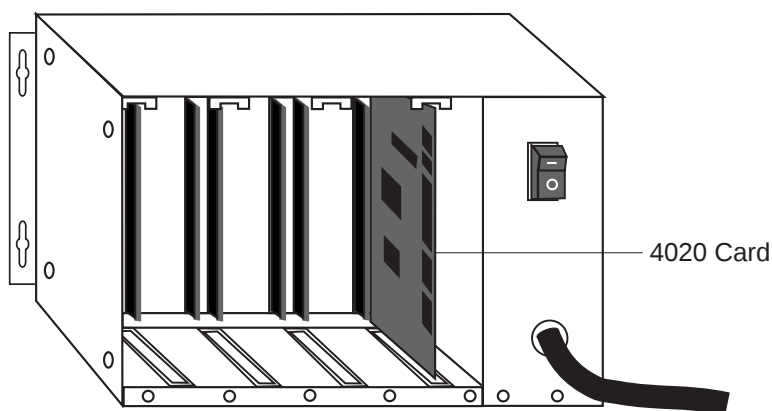

Figure 2-3 — Populated Micro PC Card Cage
4. Slide the 4020 into the card cage. The ROM-BIOS label on the card should face to the left. See Figure 2-3 for an illustration of the 4020 in a Micro PC card cage.